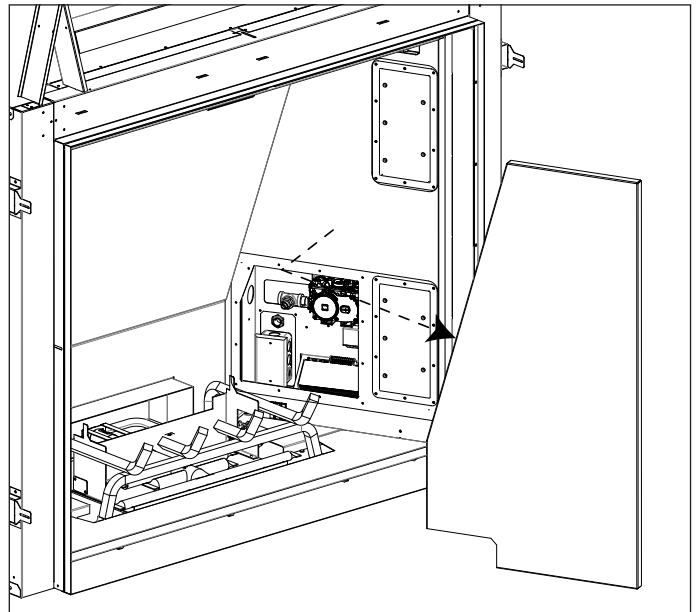

Figure 11: Right Liner Removal
2. Remove the right liner from the firebox. See Figure 11.